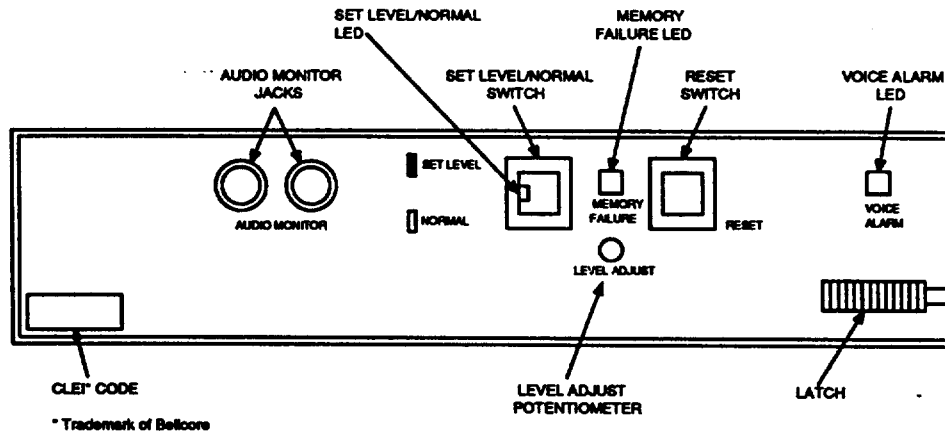
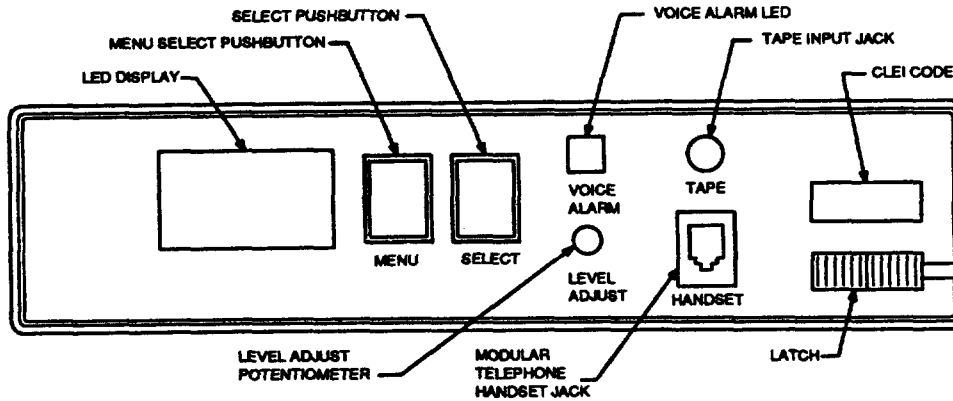

Figure 8. ALD1 Circuit Pack Faceplate
Figure 9. ALD2/ALD5 Circuit Pack Faceplate
3.03 System controls and indicators are located on the faceplates of the ALD1 (Figure 8) and ALD2/ALD5 (Figure 9). These controls are described in Tables E and F, respectively.